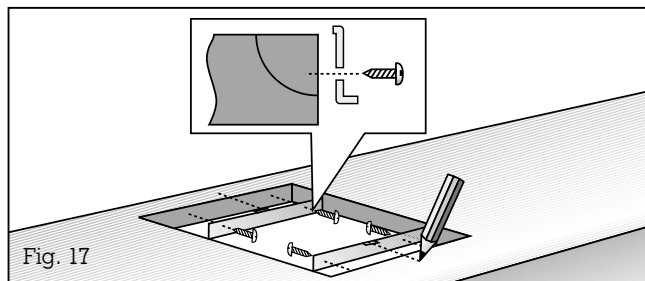

Fig. 17
- **Mark the centre of the recess exactly.** Secure the securing rails on the front and rear edges of the recess. Make sure that the lugs of the securing rails lie on the worktop and that the centre marking of the securing rails is precisely flush with the centre marking on the worktop (Fig. 17).